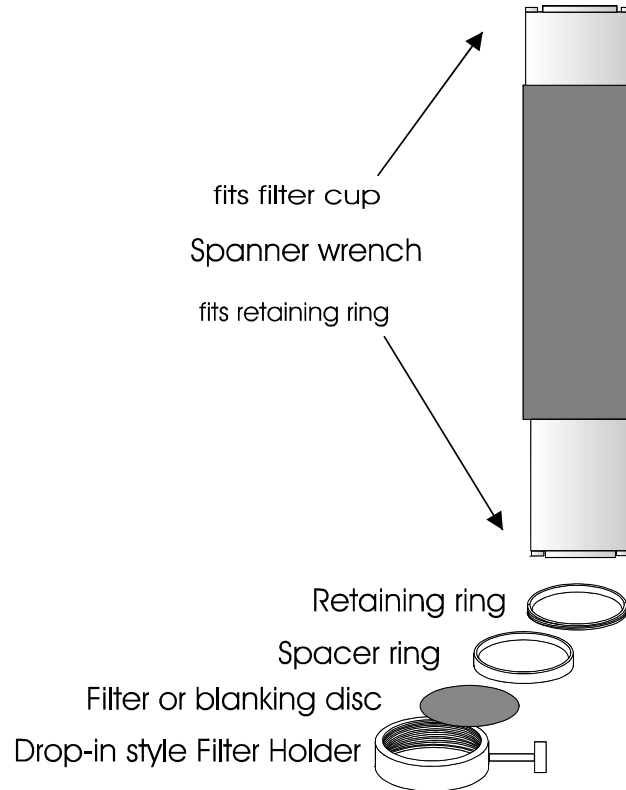

Figure 7-4. Filter holder components
There are at least two components installed into each filter cup or holder before the Lambda 10-2 is shipped: a threaded retaining ring to secure the filter into the cup (or holder), and a spacer ring. In all but one of the filter cups, and in one of the filter holders, there will also be a blanking disc. Figure 7-4 depicts these items using the drop-in filter holder as an example.
- **Retaining Ring.** This ring is threaded on its outside surface and has two slots on its top edge. It is intended that the two slots be used for the removal and installation of the retaining ring when using the spanner wrench that is provided with the Lambda 10-2 (shown in Figure 7-4). Note how the design of the spanner wrench differs between 25, 32, and 50 mm filter sizes.